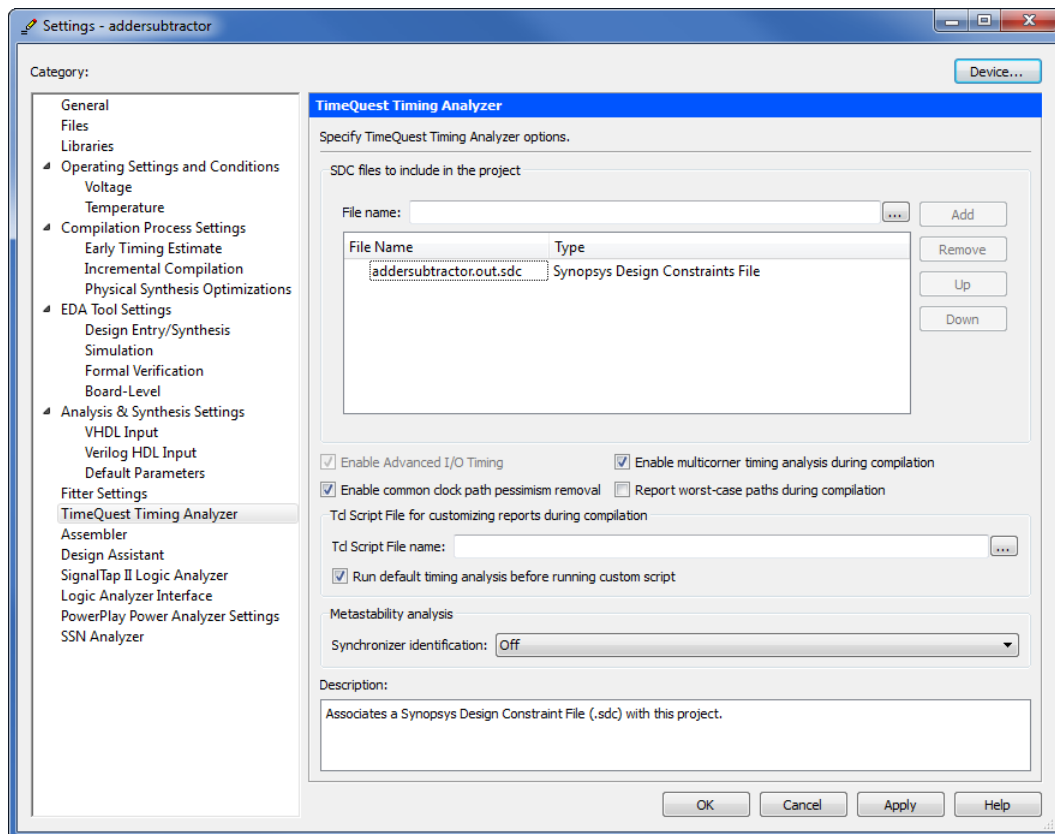

Figure 35: Adding SDC file to project.
- From the main Quartus® II window, click **Assignments > Settings... > TimeQuest Timing Analyzer** to reach the window in Figure 35. Here, we can add the SDC file we have created to the project. Click on the ... button beside the SDC filename field and select *addersubtractor.out.sdc*, which is the SDC file we created using TimeQuest Timing Analyzer. Click on **Open** to return to the window in Figure 35 and click **Add** to associate the SDC file with this project. Click **OK** to return to the main Quartus® II window.